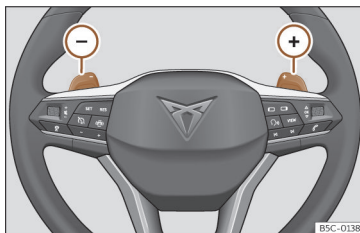

Fig. 146 Steering wheel: automatic transmission levers
- Press the gearshift paddle (+) to select a higher gear»» Fig. 146.